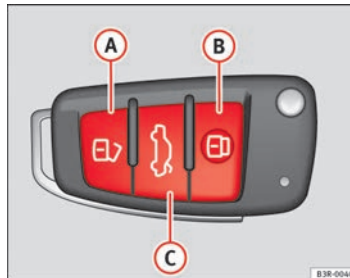

Fig. 78 Remote control key: Control buttons ▶
- Press button **A** ⇒ Fig. 78 for about 1 second.